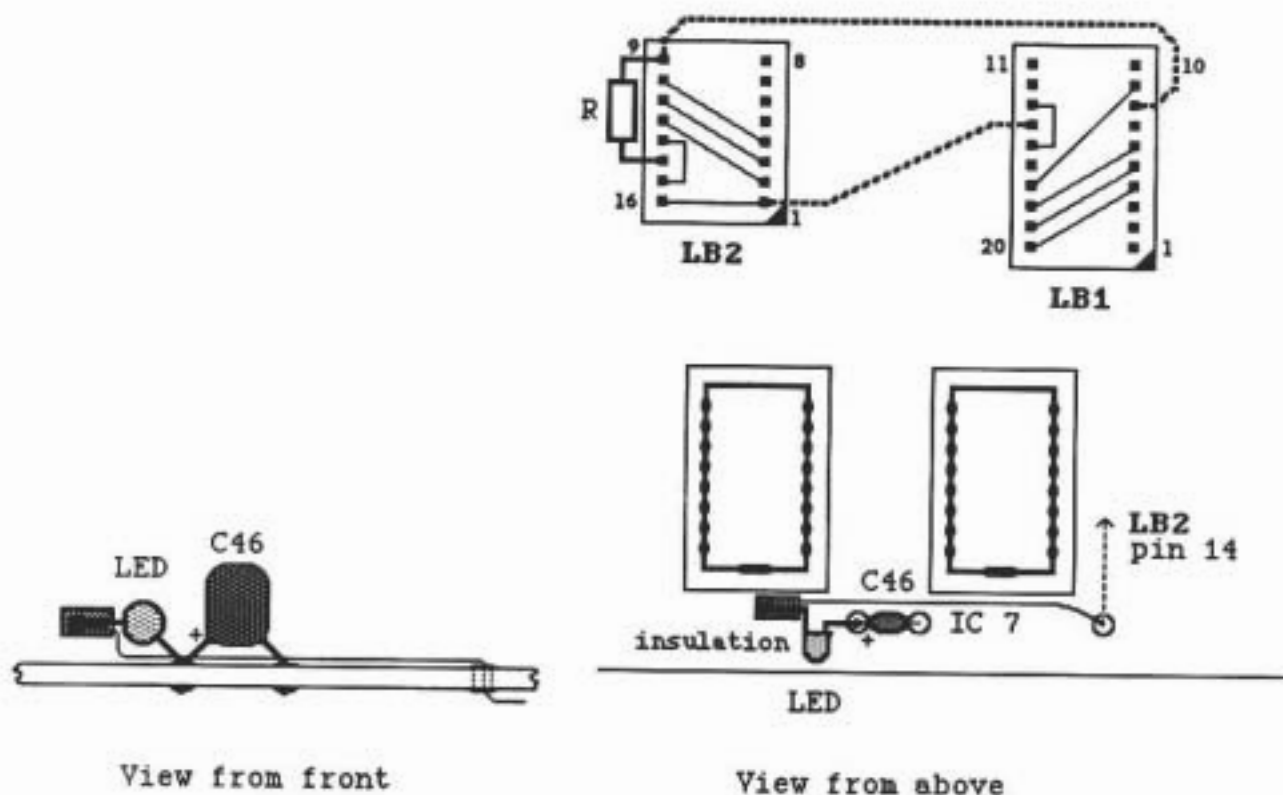

figure 2:wiring diagram
The only components required are an LED and a 330 ohm 1/8 or 1/4 Watt resistor. The LED should be small (3mm) type but can be any colour, I just happened to have a red one to hand. Figure 2 shows the connections in both plan and frontal views.
- 3) Carefully bend and crop the leads of the LED as shown in figure 2. Note that the LED is correctly orientated, the cathode end (flat on package) is free. Solder the anode to the positive pin of C46 on the component side of the board.
- 4) Now solder a length of single cored wire to the LED cathode (free end), then poke the wire through the plate through hole adjacent to IC7 as shown in figure 2. Solder the free end of the wire to LB2 pin 14. Since the final link involves the wire passing through the hole, it is advisable to use wire that has a thick insulation layer, i.e. wire wrapping wire. If you plan to use enamelled wire, then I recommend you place a small piece of insulation over the wire and position it inside the hole. This will prevent the edges of the hole piercing the wire's insulation.